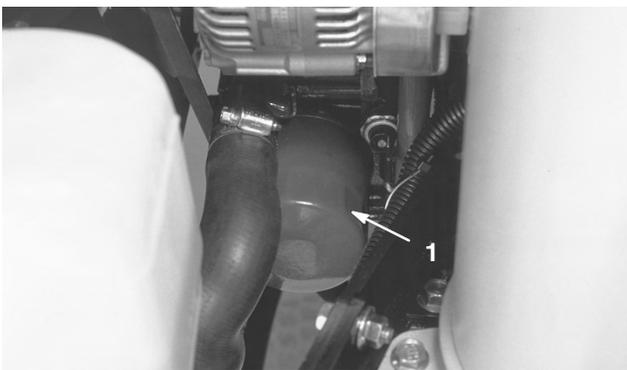

Figure 41
2. Remove the oil filter (Fig. 41). Apply a light coat of clean oil to the new filter seal before screwing it on. **Do not overtighten.**